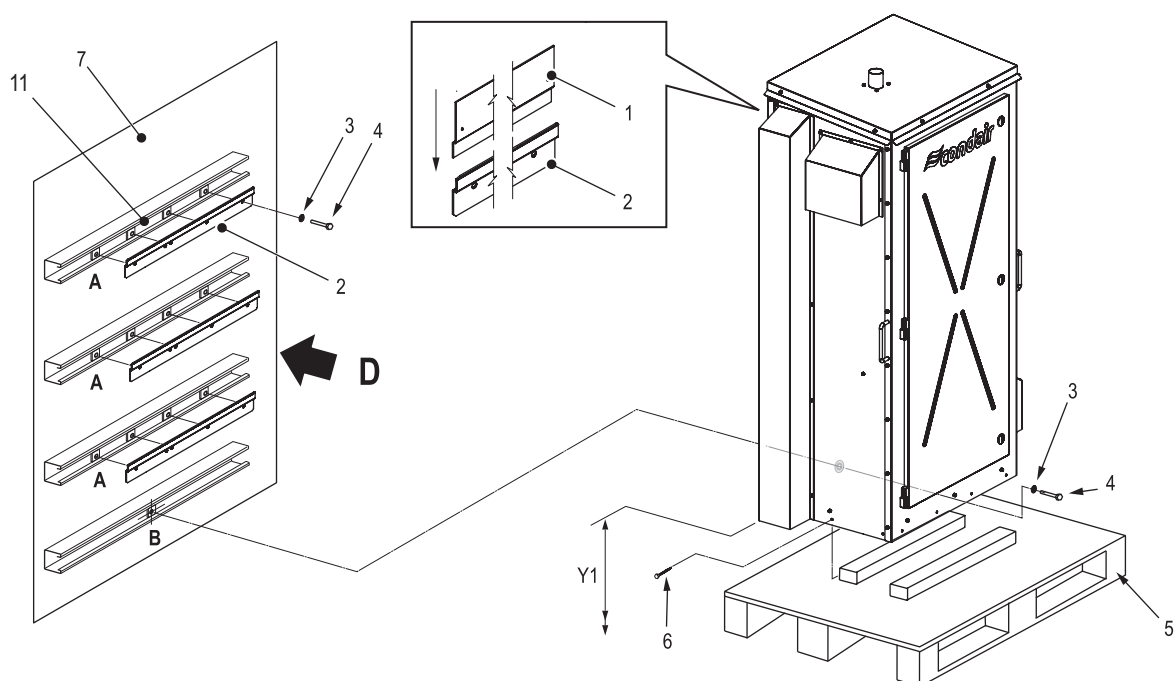

Fig. 10: Air Handling Unit Mounting
3. Mark the attachment points "A" and "B" at the desired position with the help of a level. Refer to Fig. 10 and Table 6.
8. Carefully raise the humidifier into position and align the mounting brackets on the back of the humidifier with the installed mounting bars, as shown in Fig. 10. Lower the humidifier onto the mounting bars, and ensure that the unit is seated properly and level.